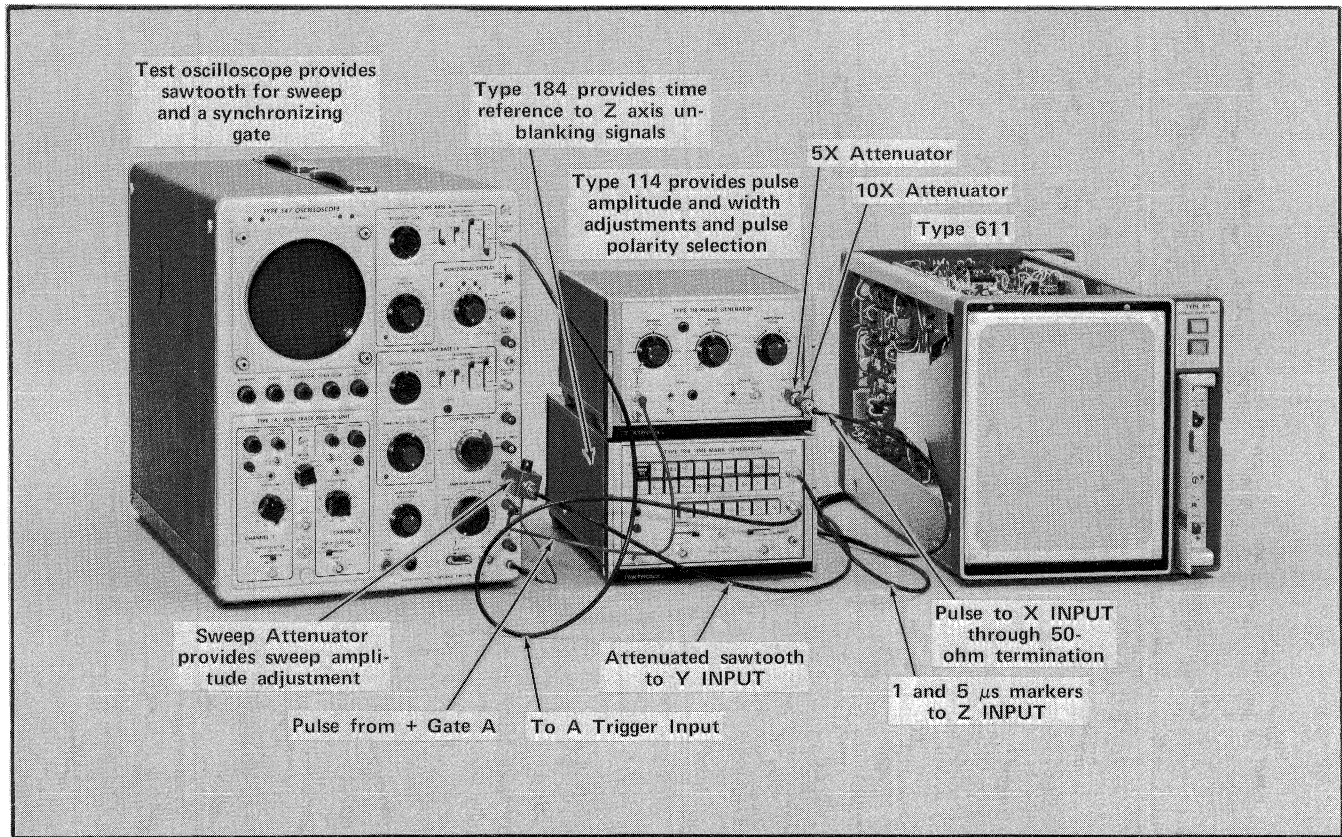

Fig. 5-20. Equipment setup for Deflection Amplifier settling time calibration steps.
a. Test setup is shown in Fig. 5-20.